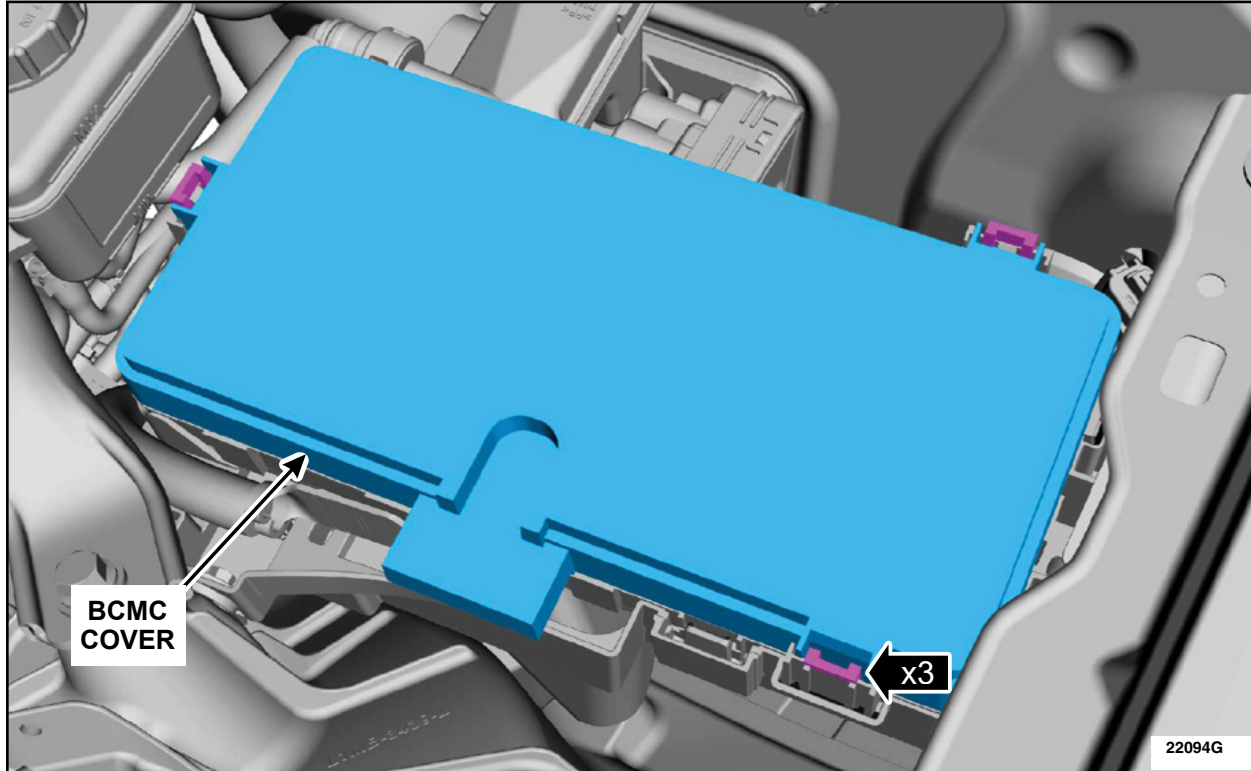

FIGURE 7
14. Release the tabs and remove the Body Control Module C (BCMC) cover located on the on the driver side. See Figure 7.